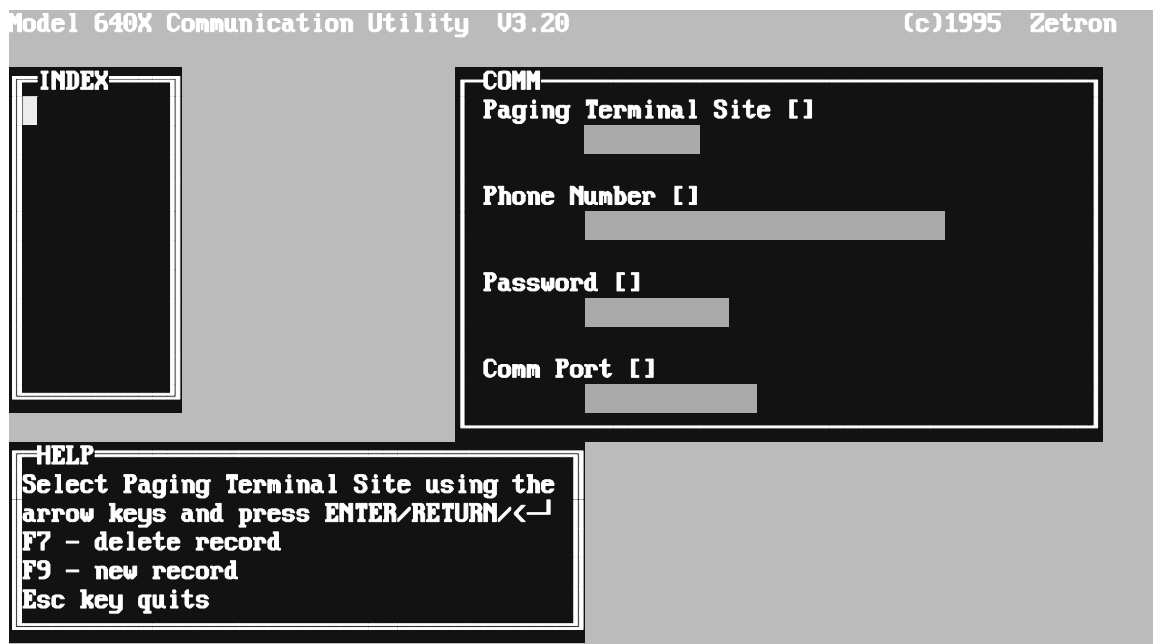

Figure 14. MCU Comm Window
- ❑ 5. Press <F9> to start a new record. The Comm Window shown in Figure 14 appears.